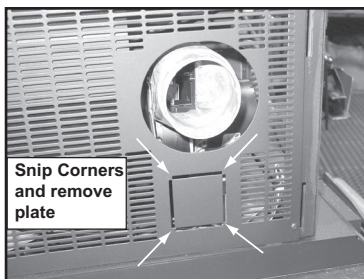

Figure 18.1
- Snip corners and remove plate. **Figure 18.1.**